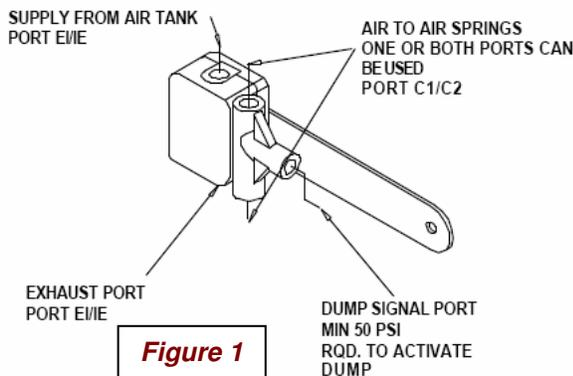

Figure 1
- Attach airlines to height control valve ports – refer "Figure 1".